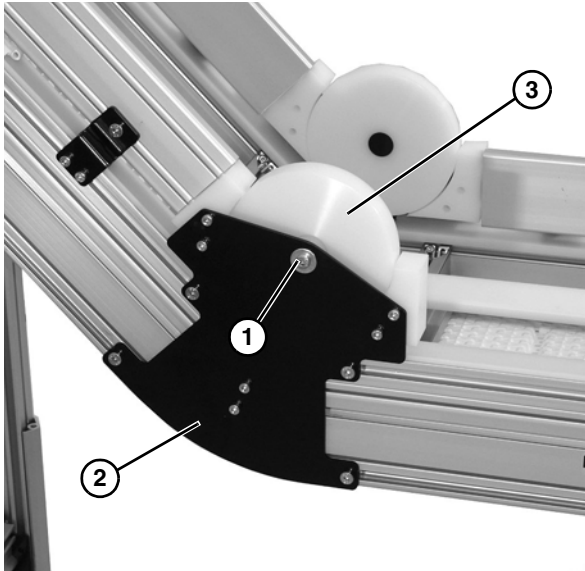

Figure 56
1. Remove cap screw (**Figure 56, item 1**), washer, and spacer on side of lower knuckle assembly (**Figure 56, item 2**), and remove hold down guide (**Figure 56, item 3**). Repeat on opposite side.